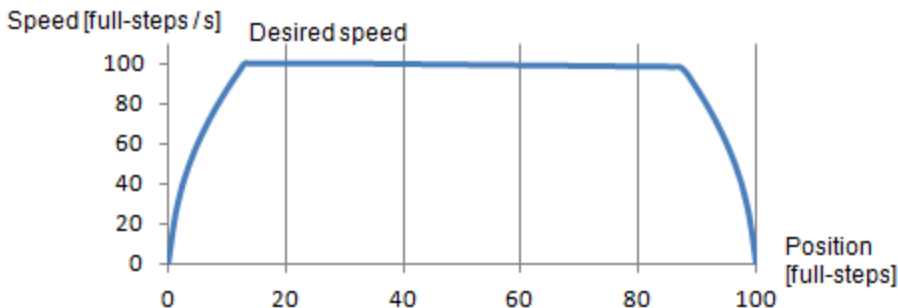

Figure 19. Acceleration and deceleration ramp
- The **Full-step Configuration** group contains speed and acceleration settings. Code for the acceleration and deceleration ramp is generated when the Acceleration property is set to a value greater than zero. Note that acceleration is always the same as deceleration. An example of an acceleration ramp is depicted in Figure 19. The acceleration setting is 400, as shown in Figure 18.